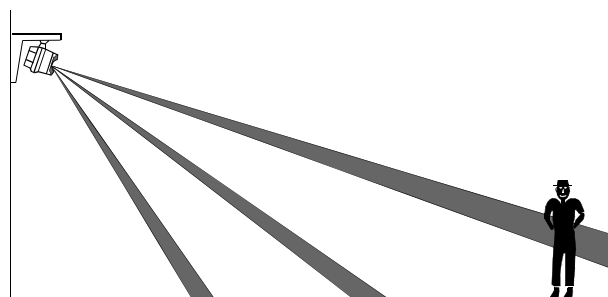

Figure 8. Aiming the PIR
- H. Refer to the coverage pattern which applies to your unit. Position the detector so that an approximate center line through the unit will intersect the center of your body at the maximum distance where movement is to be detected (see figure 8). Position yourself outside the detection pattern. Walk slowly ACROSS the coverage pattern (in opposite directions), to verify proper positioning and detection. Readjust if necessary.